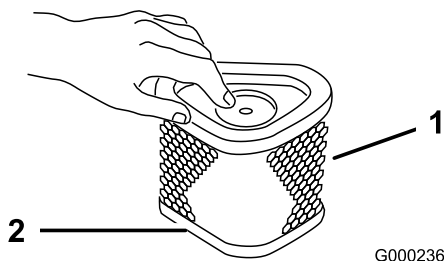

Figure 26
- A. Lightly tap the element on a flat surface to remove dust and dirt (Figure 26).